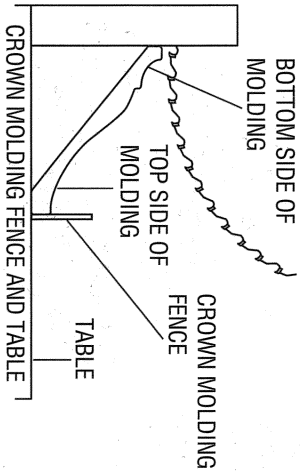

Figure 18
Position molding as shown in Figure 18. All cuts made with the back of the molding against the fence
Use the 36807 crown molding fence accessory to maintain the angle at which the molding will be on the wall. Place the bottom side (the side that will be against the wall) against the miter saw fence. Place the top (that part that will be against the ceiling) against the saw table and the crown molding fence, as shown in Figure 18.
1. Angle the molding so the bottom of the molding (part which goes against the wall when installed) is against the fence and the top of the molding is resting on the table of the saw, as shown in Figure 18.